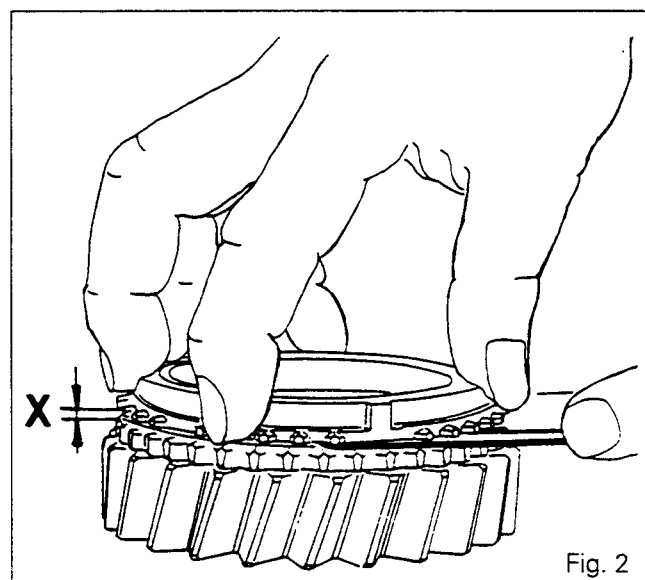

Fig. 2
Using a set of feeler gauges, measure dimension X at several locations (Fig. 2). If this dimension is less than 0.8 mm, fit a new synchro brake (B), after checking the cone. When new synchro brakes are fitted, measure dimension X which must be within the following tolerances:
- 1st/2nd speed synchro (11) = 0.9 to 1.5 mm,
- 3rd/4th speed synchro (23) = 0.9 to 1.5 mm,
- Hare/Tortoise synchro (31) = 0.9 to 1.5 mm